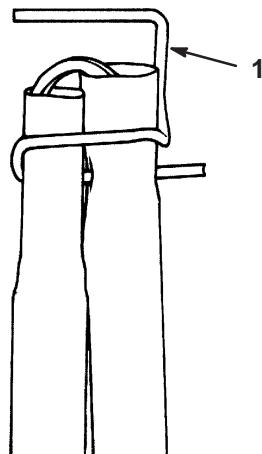

Figure 1
1. Remove the shipping wire secured to the upper and lower tube sections (Fig. 1).